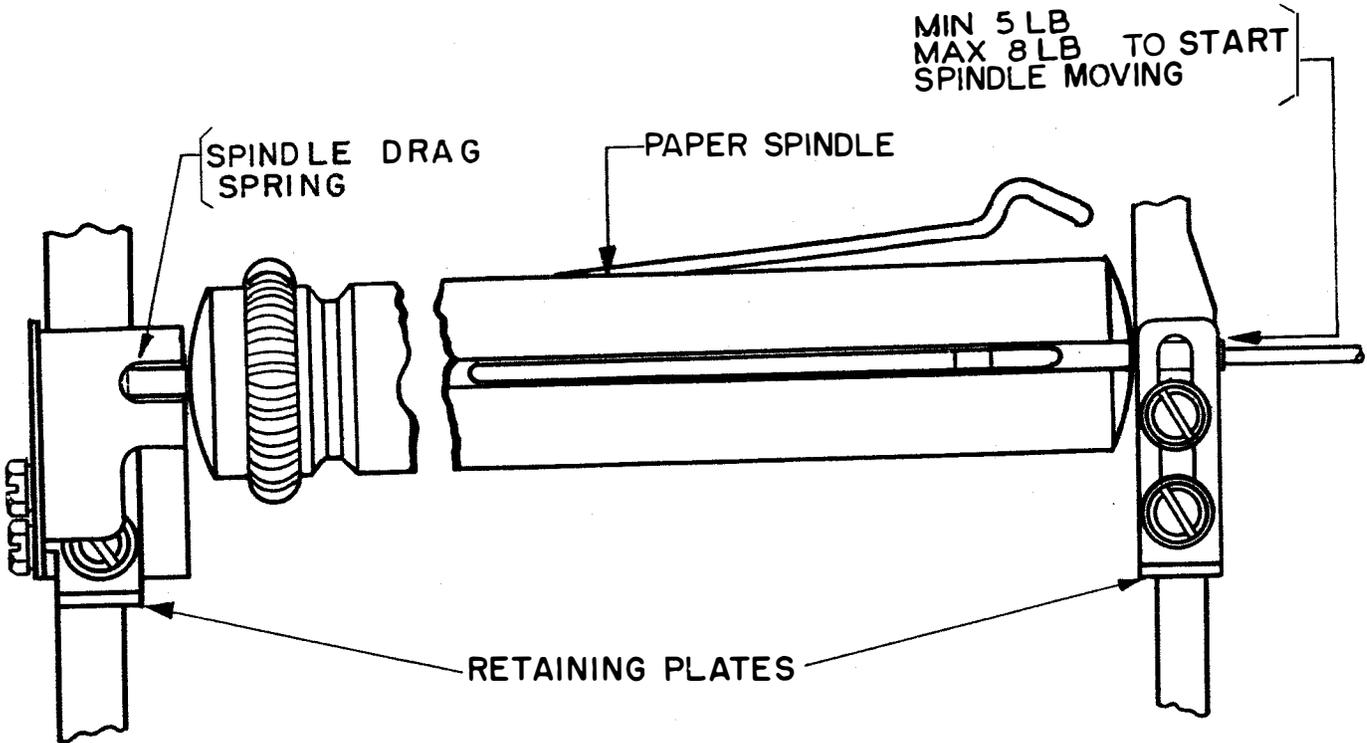

Figure 51
- 2.119 Paper-spindle Drag-spring should have a tension of minimum 5 pounds, maximum 8 pounds, viewed from the rear of the typing unit when an empty paper spindle is locked in its slots with the retaining plates and both ends of the spindle shaft are resting in the bottom of their slots. See Figure 51.